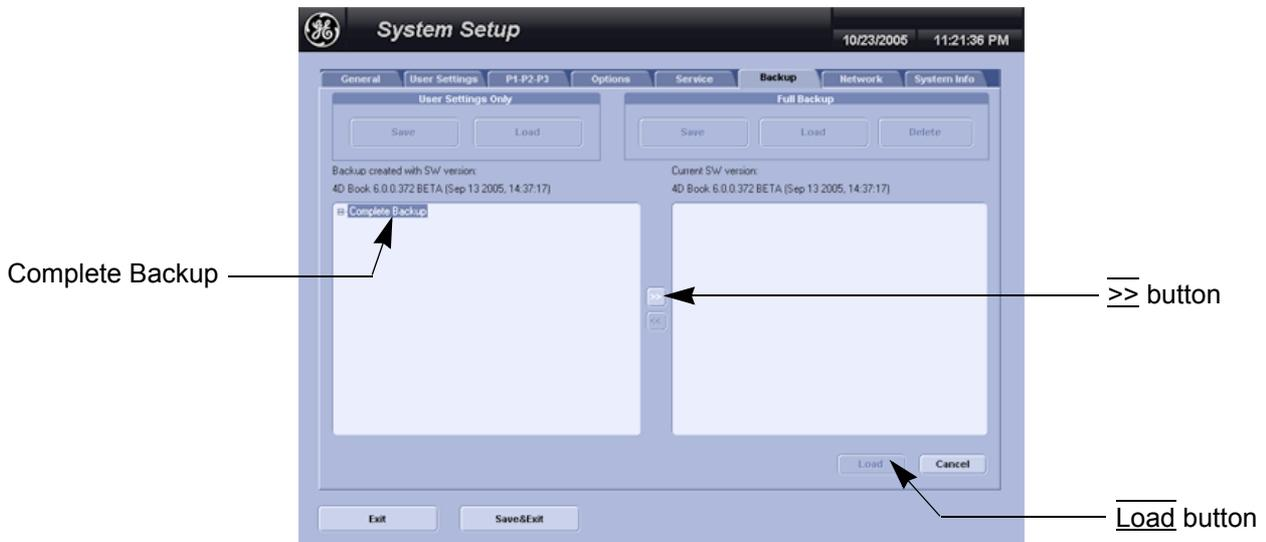

Figure 4-20 Load Backup Data
- 2.) Select the **Complete Backup** (marked blue; see: **Figure 4-20 on page 4-30**) and click the **>>** button to copy the Complete Backup into the Load Data field.